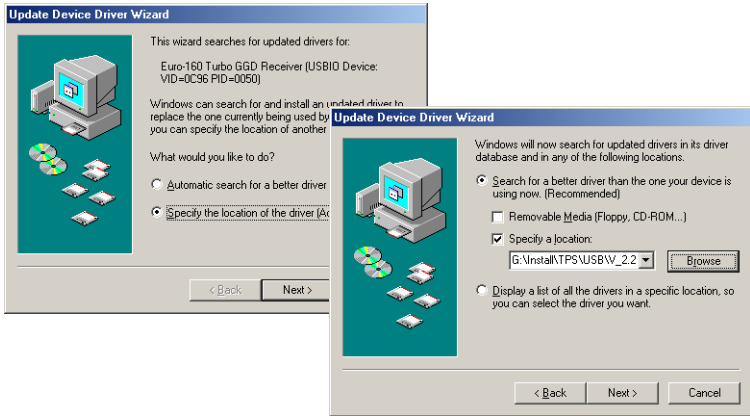

Figure C-24. Windows ME – Select Driver Search Method and Locate Driver Files
5. Select *Specify the location of the driver (Advanced)* and click **Next** (Figure C-24 on page C-15).
6. Select *Search for a better driver than the one your device is using now. (Recommended)* and *Specify a location*. Click **Browse** and select the folder on the computer drive in which the driver resides. Click **Next** (Figure C-24 on page C-15).